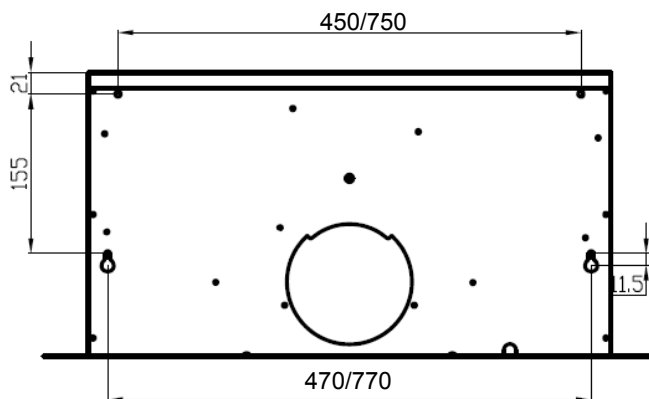

Fig. 12
- Determine where in the bottom cabinet you want to install the rangehood(Fig. 12).